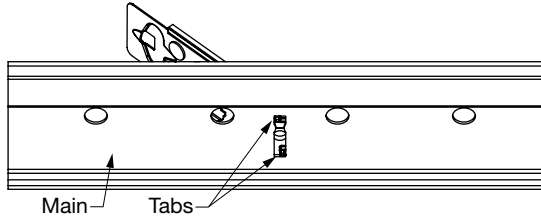

Fig 23
- Insert a nut into the slot on the Angle Bracket and place the Angle Bracket with the tabs registering inside of the rout hole (**Fig 23**)